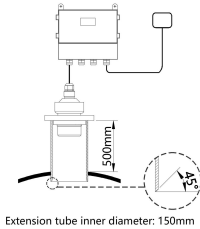

Figure 1
- 3) If the distance from the probe's emitting surface to the maximum liquid level is less than the blind zone of the selected instrument, an extension pipe must be installed. The diameter of the extension pipe should be  $\geq 150\text{mm}$ , with a length ranging from 0.2m to 0.5m. It should be installed vertically with a smooth inner wall, and the opening on the tank body must be larger than the inner diameter of the extension pipe( Figure 1).